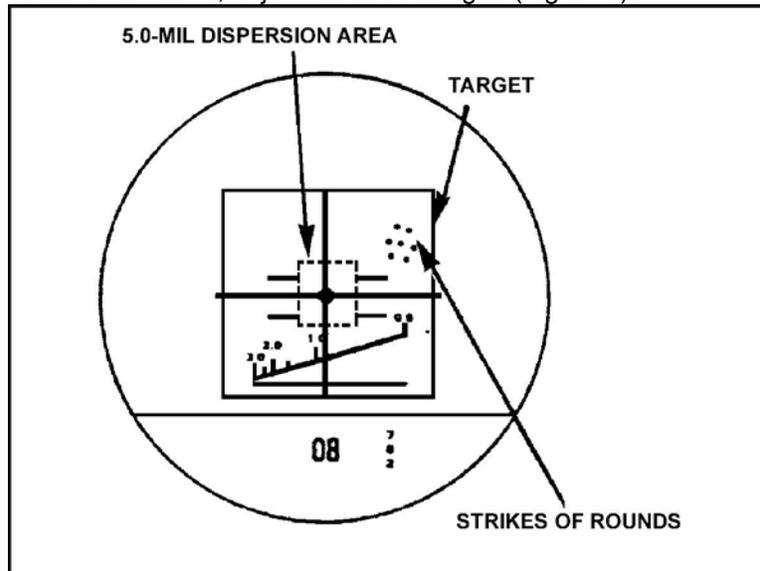

Figure 4. Rounds off center.
b. If the burst strikes off center, adjust the machine gun (Figure 4).